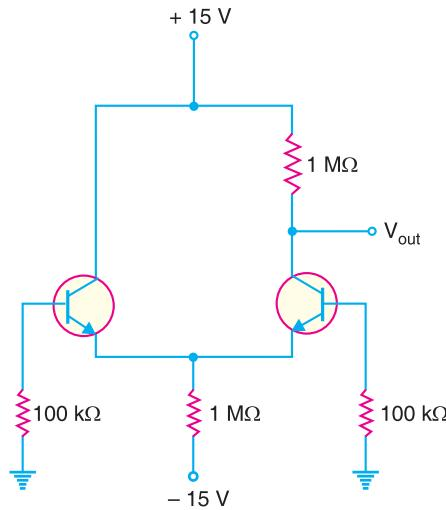

Fig. 25.26
**Example 25.13.** In Fig. 25.26, what is the output offset voltage if  $I_{in(bias)} = 80 \text{ nA}$  and  $I_{in(offset)} = 20 \text{ nA}$ ? Assume that voltage gain is  $A = 150$ . Assume only  $\beta_{dc}$  differences exist.